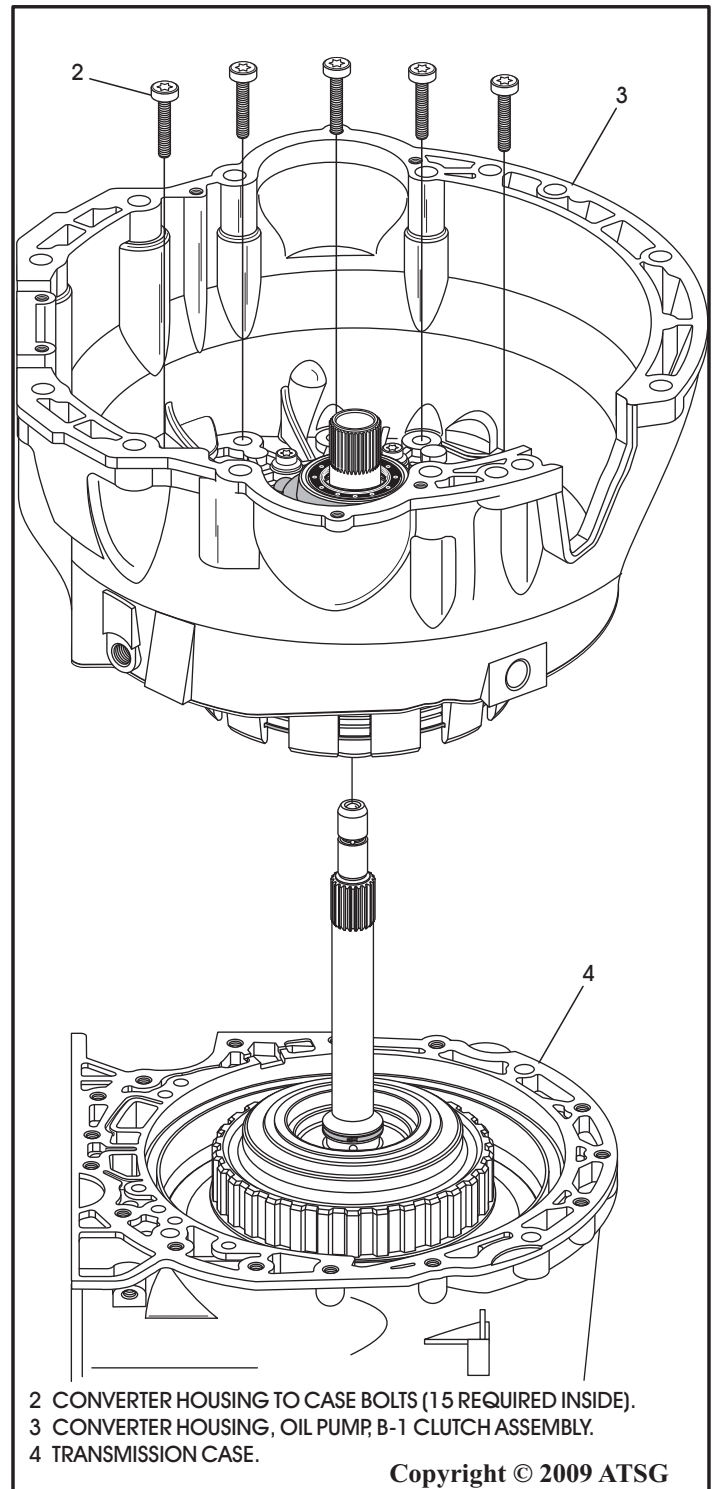

Figure 50
25. Rotate transmission so that converter housing is facing up as shown in Figure 50.
27. Remove converter housing, oil pump and B-1 clutch as an assembly, as shown in Figure 50.